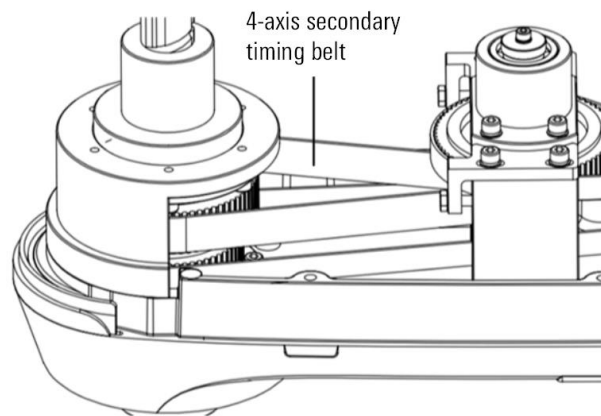

Figure 8-16 Diagram of disassembling 4-axis secondary synchronous belt
- Step6. Remove the 4-axis secondary timing belt, install a new timing belt, and install other timing belts, as shown in Figure 8-16, and then re-fix the screw spline flange to the forearm.